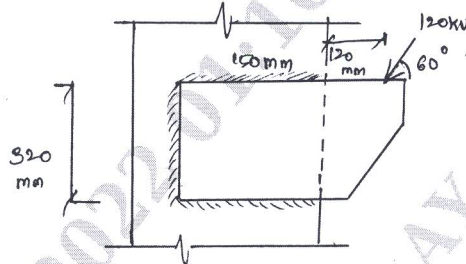

Fig.Q4(b)
b. Determine the size of the weld required the shown bracket connection for Fig.Q4(b).